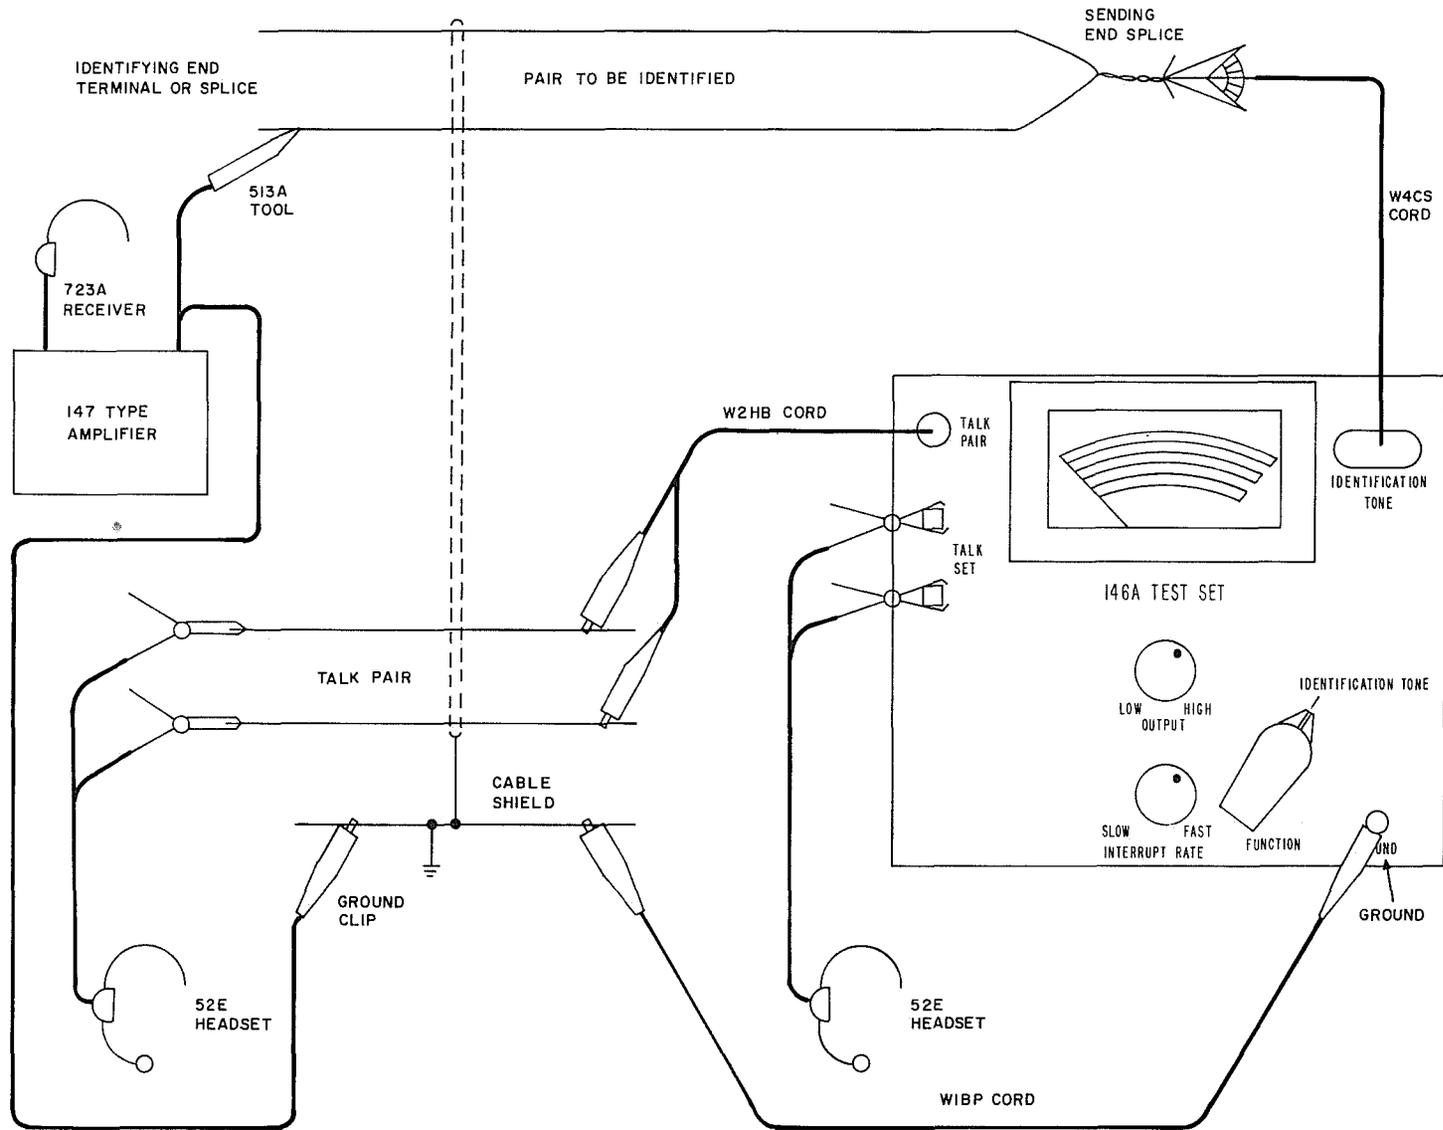

Fig. 9—Wire Identification in Trunk and Carrier Circuits
- 5.11 Plug the W4CS cord into the IDENTIFICATION TONE jacks (Fig. 9). Set the FUNCTION switch to IDENTIFICATION TONE. Fasten the W4CS cord to both the "Ring" and "Tip" sides of the first pair to be identified.